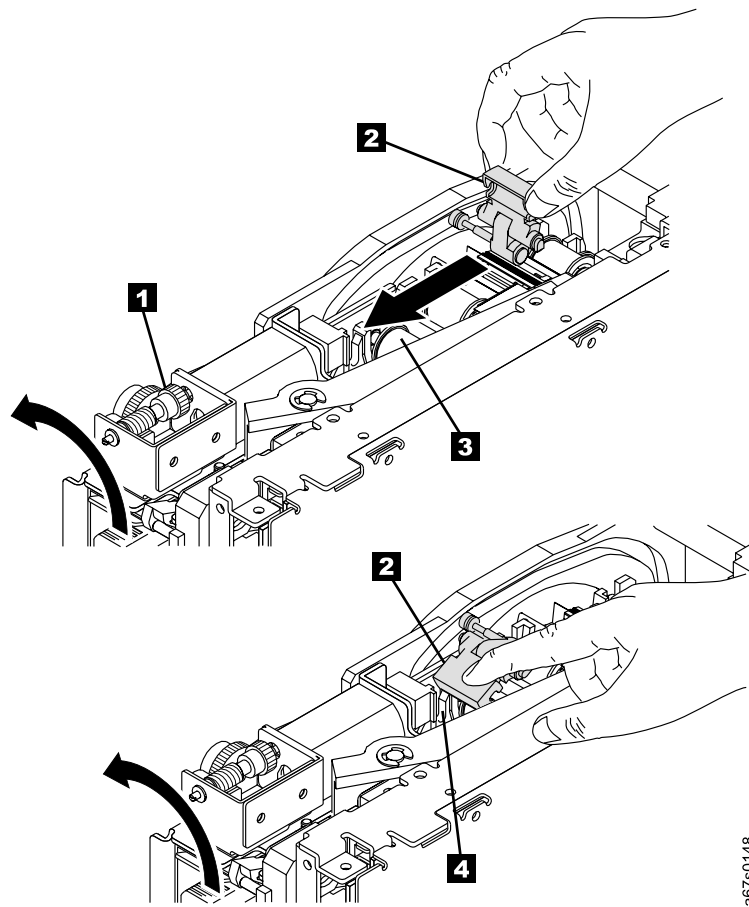

Figure 108. Guiding the leader block into the home position
9. Manually rotate the loader motor gear (see **1** in Figure 108) in the unload direction (counterclockwise) until the leader block **2** reaches the last roller **3**.